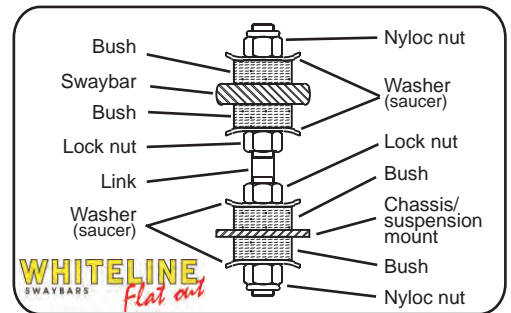

Fig.1. Whiteline double pin type link.
- For swaybars supplied with new links and hardware, refer to Figures 1 to 4 for most common endlink types and their correct assembly.
**Caution:** Do not over tighten swaybar pin type link bushes, refer Fig 1. Nuts should be tightened until washer meets the bush & stops rotating. Then tighten a further 2/3 of a turn. Over tightening compresses and pre-loads the polyurethane bush which reduces articulation and may cause premature failure.